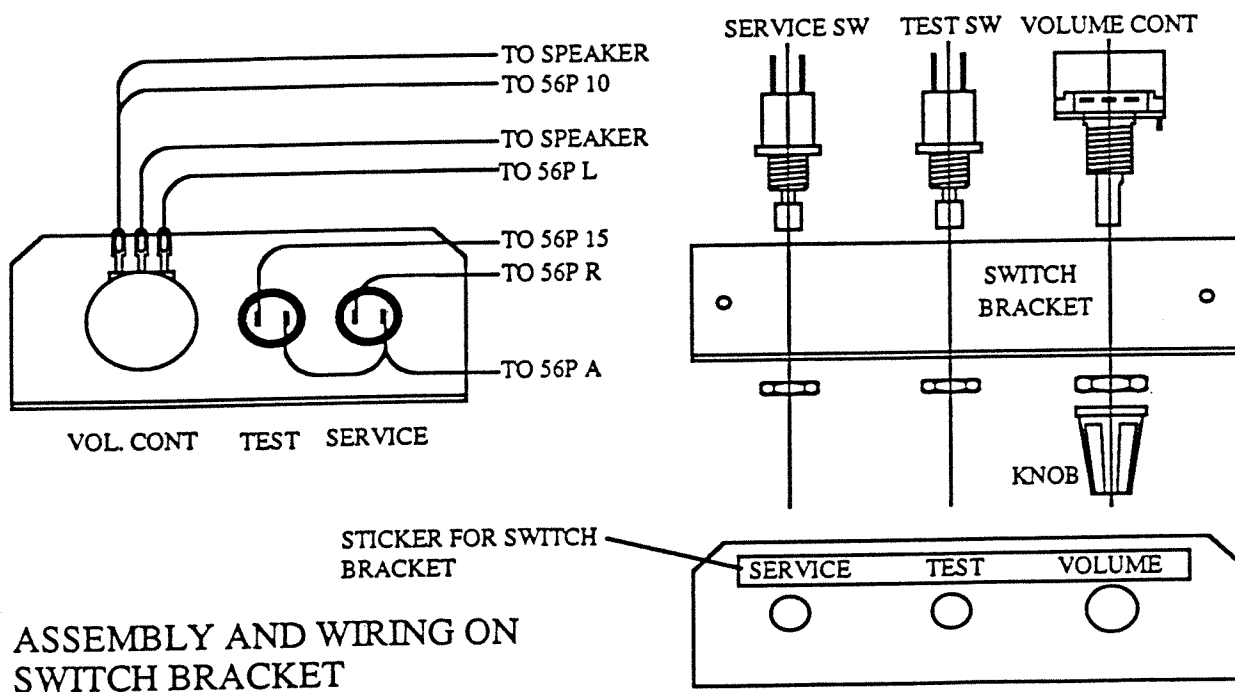

FIGURE 4
16. Locate VOLUME CONTROL 100 OHM 10 WATT and install into service switch bracket as shown in figure 4.
17. Locate TEST, SERVICE, VOLUME STICKER and place on the service switch bracket as shown in figure 4.
18. Locate KNOB 1/8" SHAFT and install on shaft of volume control 100 ohm 10 watt as shown in figure 4.
24. Connect the SERVICE SWITCH ASSEMBLY as follows: (see figure 4.)